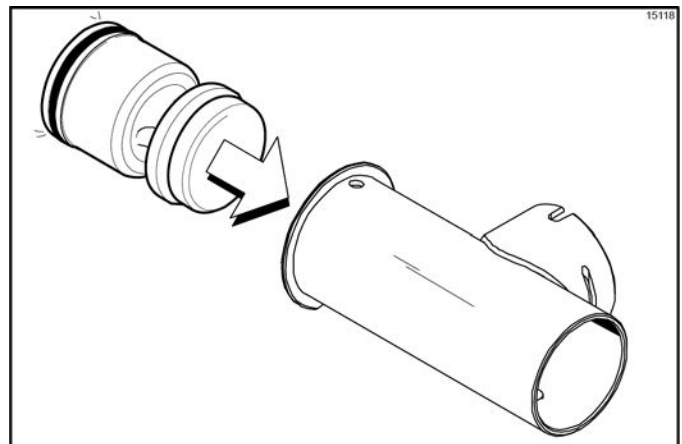

Figure 6-37
4. Insert the piston into the retaining pin end of the pump cylinder. (See Figure 6-37.)